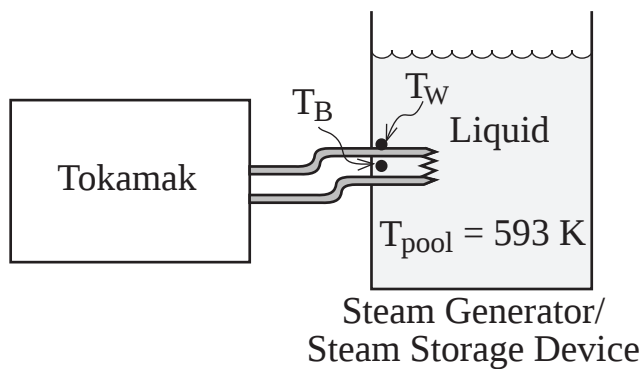
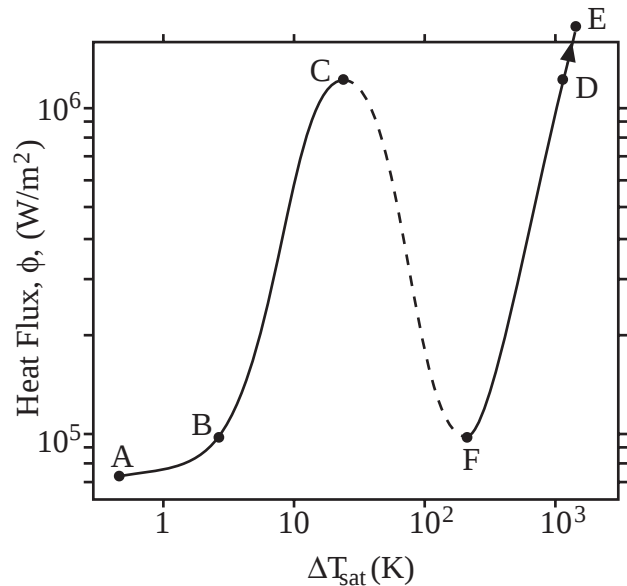

Figure 1
Figure 2. Boiling Curve.
A Tokamak is cooled by a single phase water flow which exits at a temperature which you will determine, and this water enters a steam generator through a large number of tubes in which parallel flow occurs (only one tube is shown in Fig. 1). Assume each tube has diameter 0.01m and all tubes together have an outside surface area of 10^6 m^2 . Take the flow in each tube at $\text{Re}=10^7$.
- What outside wall temperature (see Fig. 1) would you desire to achieve on steam generator tubes for the length portion just entering the storage device? Use the boiling curve provided in Fig. 2.
- What bulk coolant temperature, T_B , within a tube entering the storage device (see Fig. 1) is necessary to achieve the wall temperature you specify in Part 2.a?